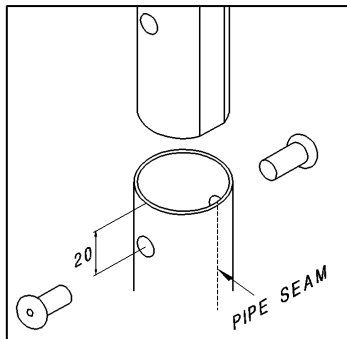

Figure 7
3. Drill two holes 10.5mm (*NOTE: Use metric measurements for this operation*) in diameter on centre-punch positions. (Figure 7.)